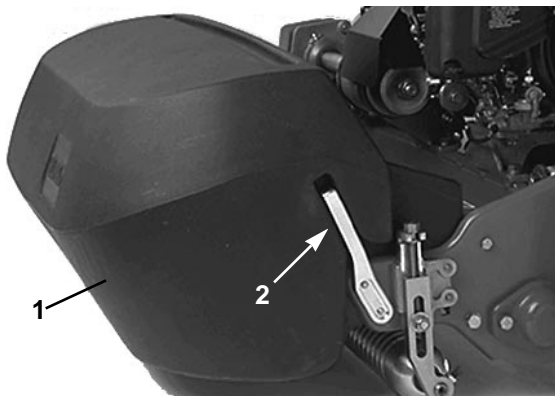

**Figure 11**
1. Loosen the screws securing the top bar (Fig. 11) to the cutting unit. Insert a .060 inch feeler gauge between the top of the reel and the bar and tighten the screws. Assure the bar and the reel are equal distance apart across the entire reel.